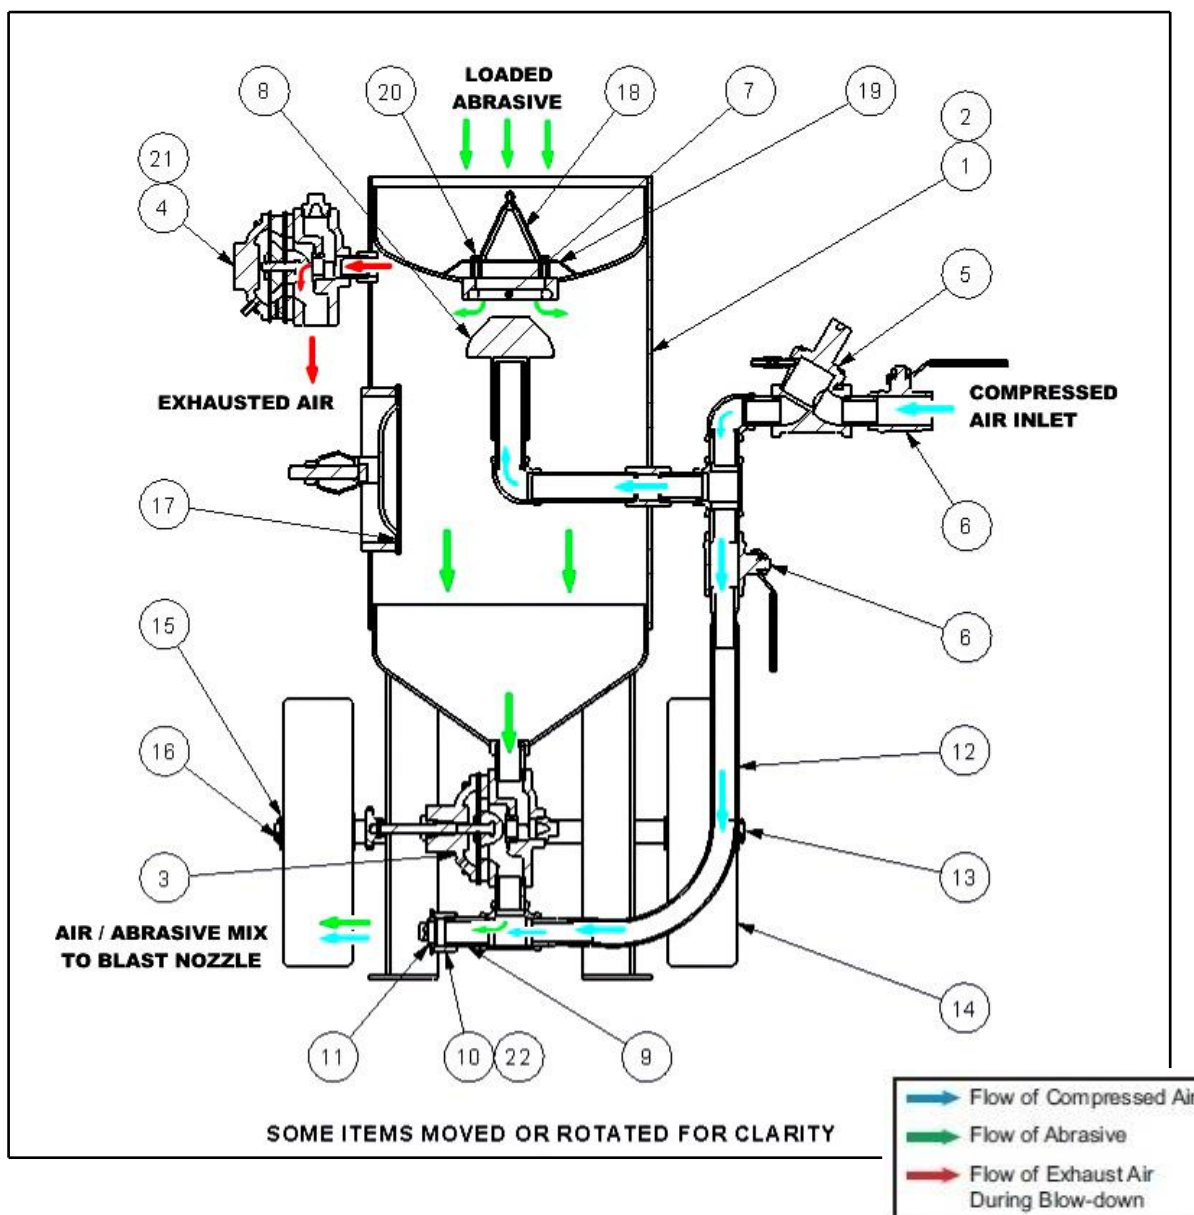

Figure 2-1 UltraBlast 300 / 600 Machine
The UltraBlast U300 / U600 with Pressure-Release Controls is illustrated in *Figure 2-1* and the parts list is provided in *Table 2-1*. Reference numbers in *Figure 2-1* correspond to the numbered items in *Table 2-1*.
3. **MAIN AIR SUPPLY** – Use a minimum of 1-1/4” supply air line. **(Do Not Exceed 100 ft.)** Connect the hose to the blast machine at the connection point marked compressed air inlet in Figure 2-1.
Refer to Figure 2-1. Use the following procedure to set up the UltraBlast 300 / 600 machine.